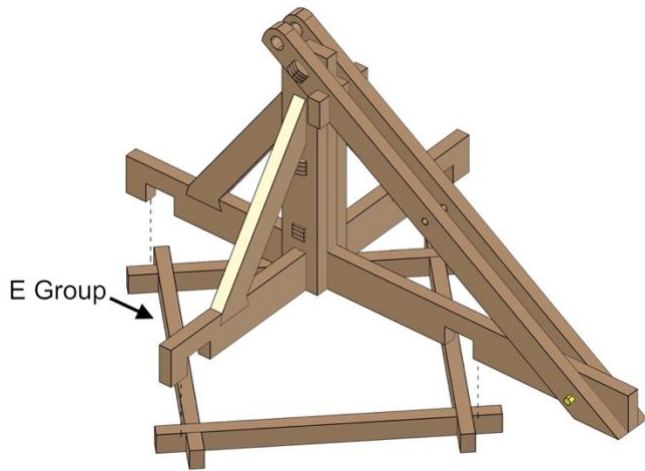

Fig. 57
- Align parts exactly as shown in Fig. 57.